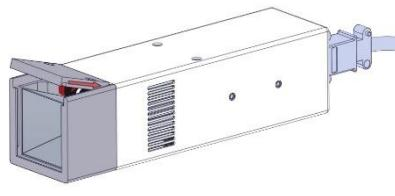

Figure 2
3. Remove the side cover by lifting from the bottom as shown in Figure 2.